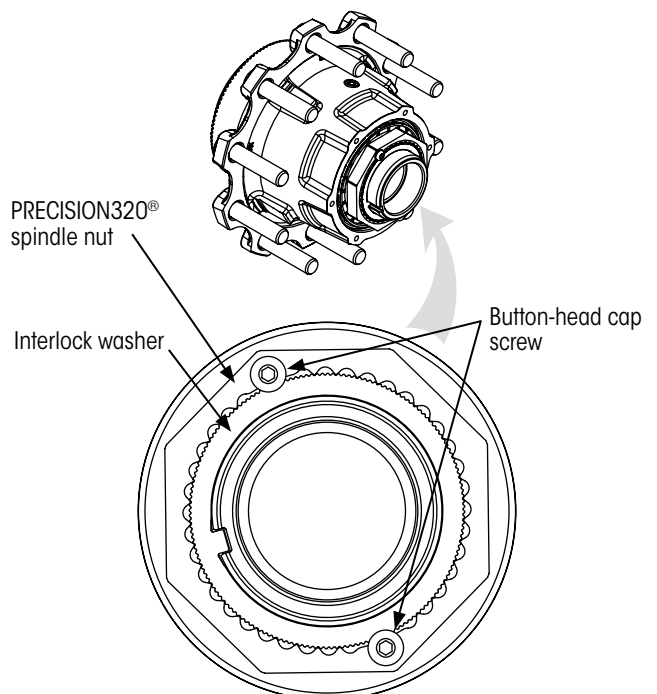

Figure 9: Button-head cap screw on PRECISION320® nut system
4. Using a hex key (TOOLS REQUIRED on page 6), **remove** button-head cap screws from interlock washer Figure 9.
5. **Remove** interlock washer and precision spindle nut (Figure 9).